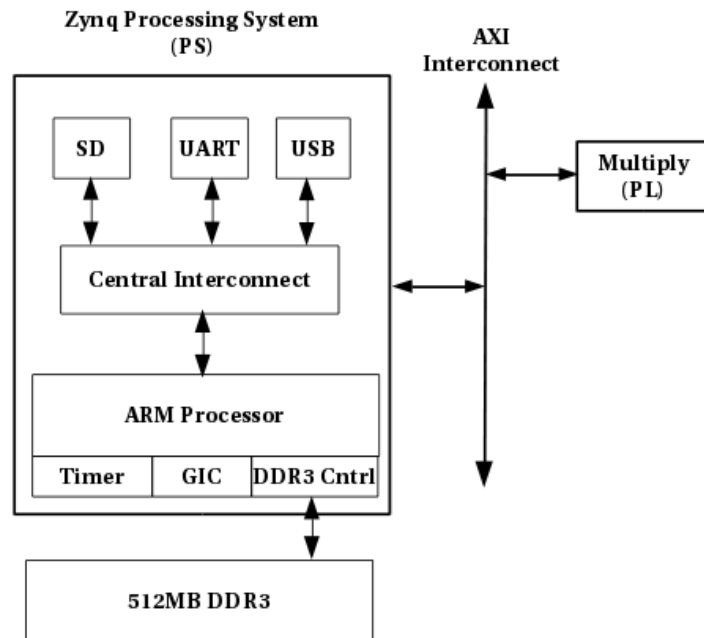
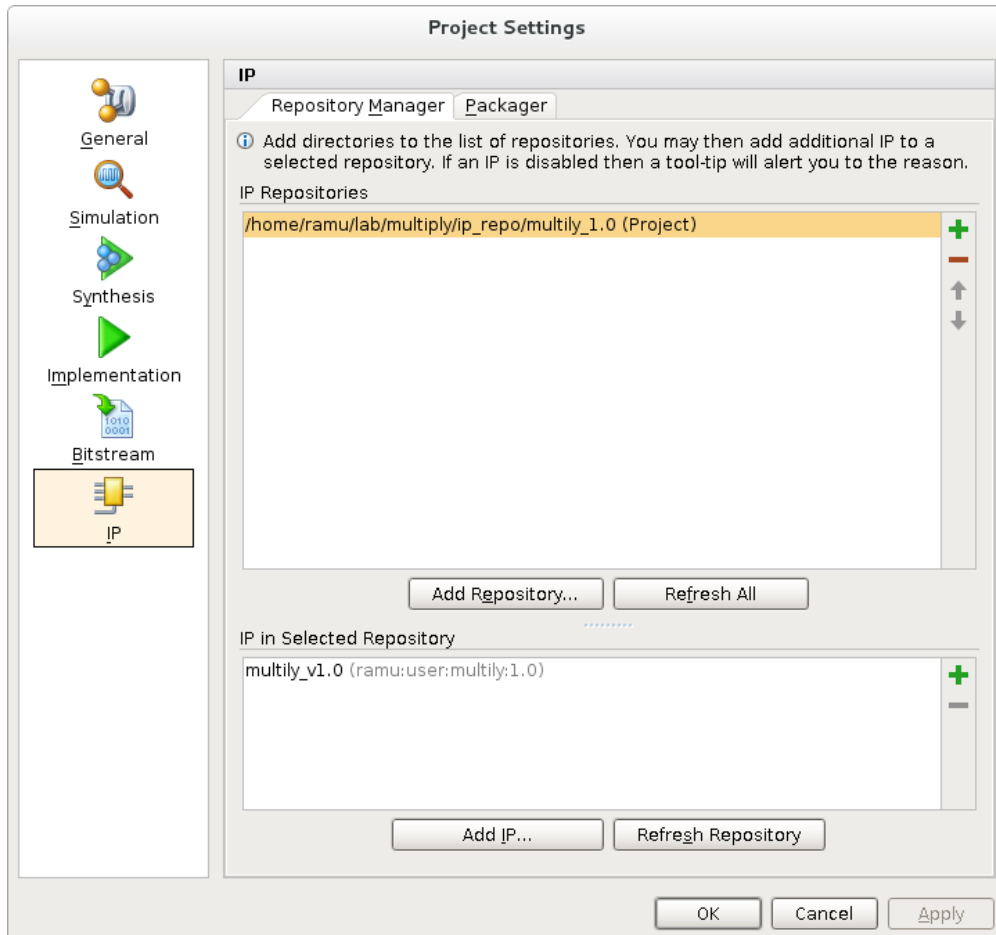

Figure 1: Zynq System Diagram
Figure 2: Add IP repository
The microprocessor system you will build in this lab is depicted in Figure 1. As in last lab, this system has a Zynq processor, an UART Peripheral, and a custom multiplication peripheral. Unlike last lab,
1. To begin, we must create a base PS system which includes all the peripherals shown in Figure 1 .
- (b) Next create block design, add 'ZYNQ7 Processing System' (PS) IP, import 'ZYBO_Z7_B2.tcl' file' as shown in Lab 3.
- (g) Click on 'Project Settings' under project Manager tab. Click on 'IP' in the project setting window. Click on the green '+' sign and add the 'ip_repo' directory as shown in Figure 2. Click apply to add multiply IP to the current project IP catalog. Now you can add multiply IP to the base system.